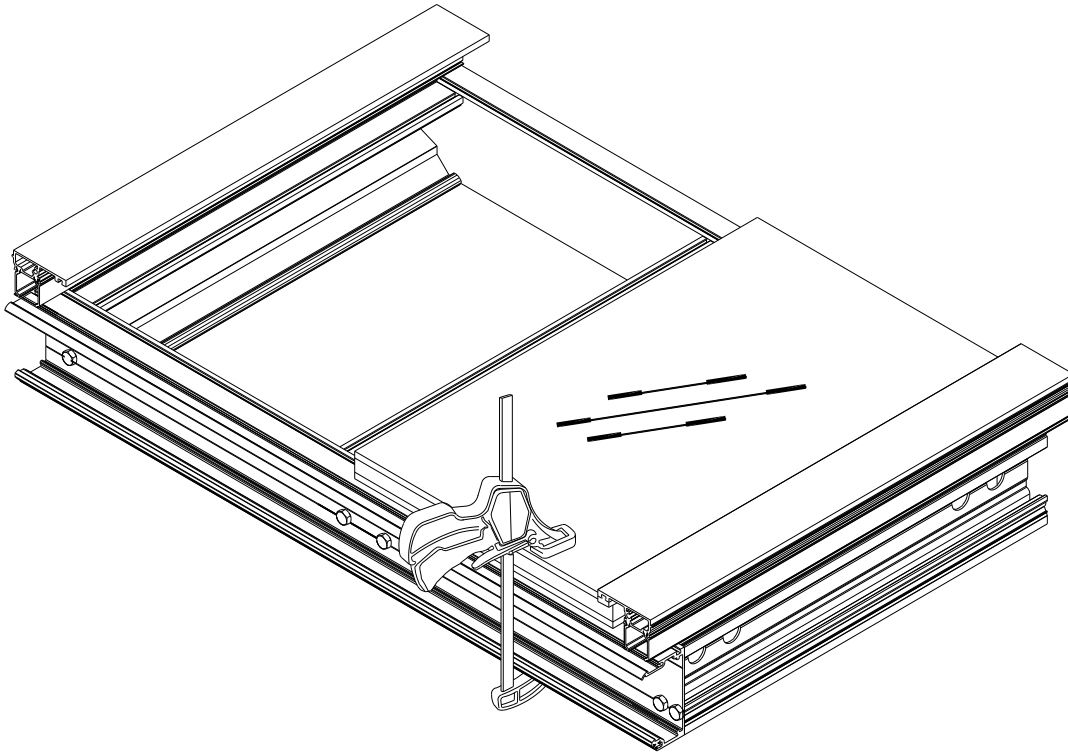

Figure 52: Glass Clamping
- NOTE:** to prevent glass from coming off the **SP451** spacer, multiple clamps are recommended to keep the glass tight and the frame square. Reference *Figure 52*.
- 16.5.1 With the panel frame **square and without bow**, clamp the glass to the frame to ensure prevent structural silicone from pushing past spacer gasket, similar to *Figure 52*.